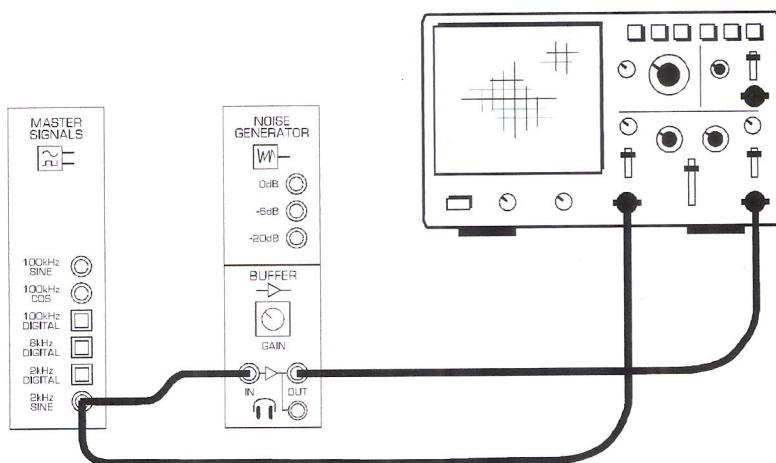

Figure 7
24. Connect the set-up shown in Figure 7 below.